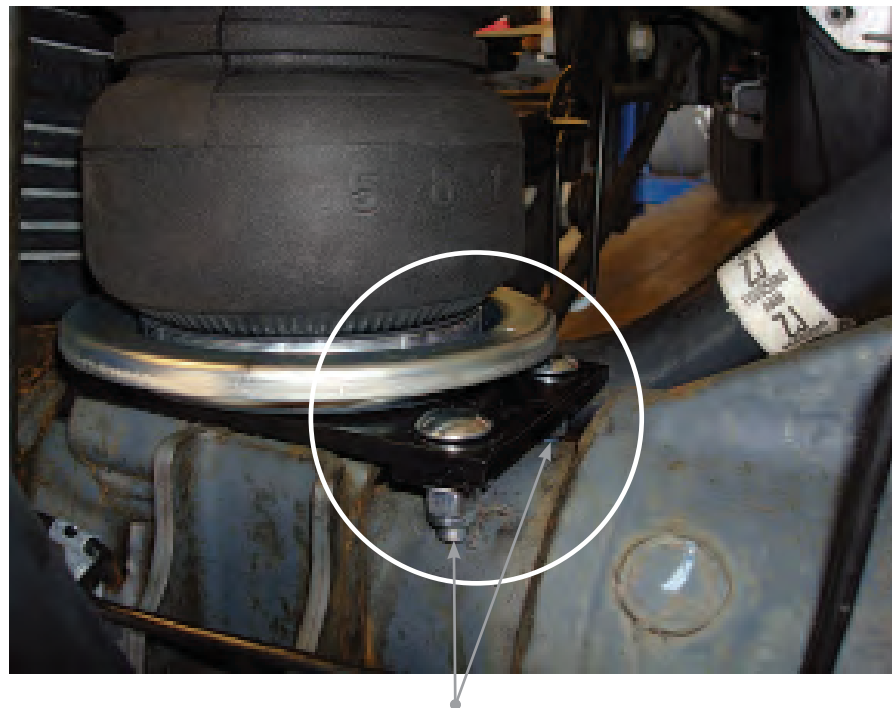

fig. 6
- While setting the lower bracket into position, insert the lower bracket carriage bolts into the holes in the clamp (E). Cap with two 3/8 flat washers (J) and nyloc nuts (P) and tighten both nuts evenly until tight (fig. 6).